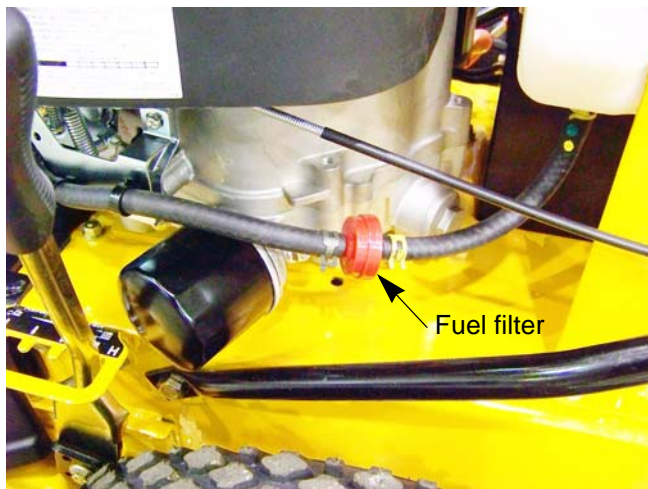

Figure 1.9
1. Clamp off the fuel lines to prevent fuel from leaking when the lines are disconnected. See Figure 1.9.